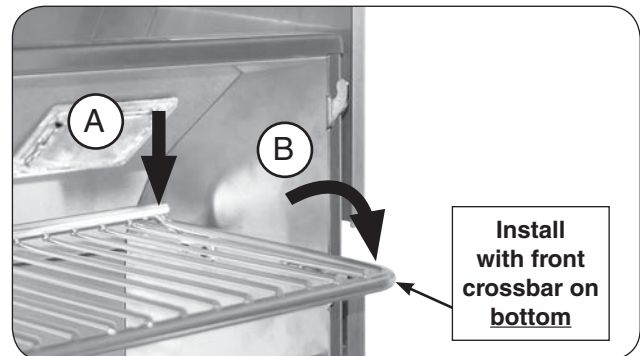

Fig. 20-2 Place warming rack for use
2. With the warming rack oriented as shown, carefully rest the rear of the rack onto the rear support plates (Fig. 20-2, A), then rest the warming rack arms onto the two lower hooks for use (Fig. 20-2, B). Repeat for the other warming rack.